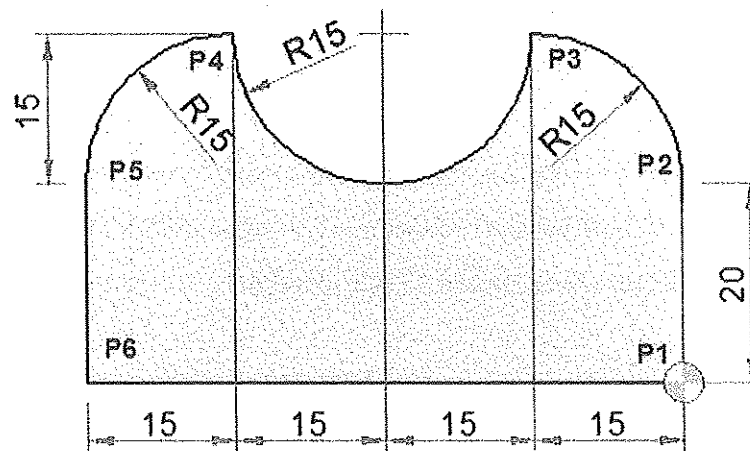

Figure Q3 / Rajah S3
- ii. By using G90, write a simple program to cut a component in the Figure Q3 below.